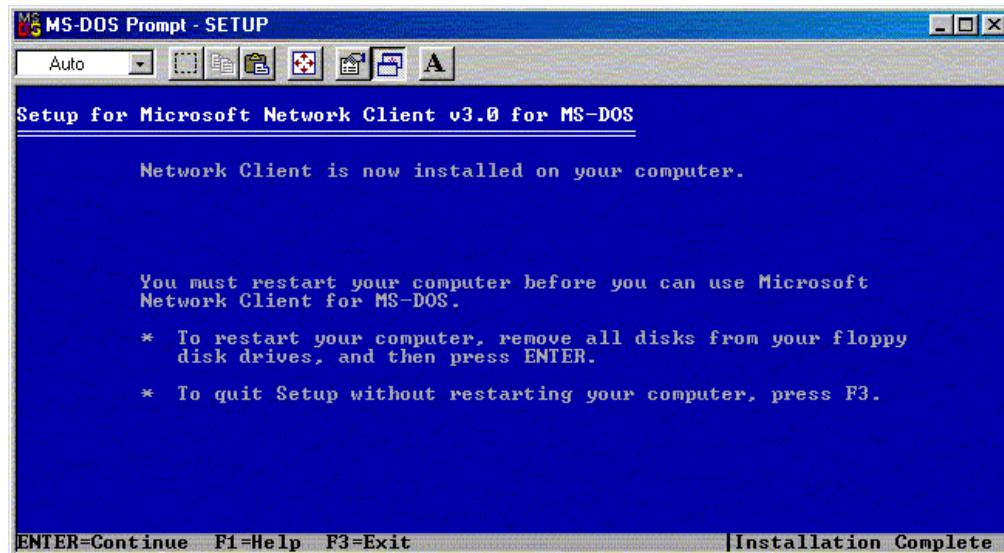

Figure A-16: Final Network Client 3.0 status screen
18. Press the **F3** key to return to the DOS prompt after the file copy and configuration processes complete. A final status screen similar to Figure A-16 is displayed.